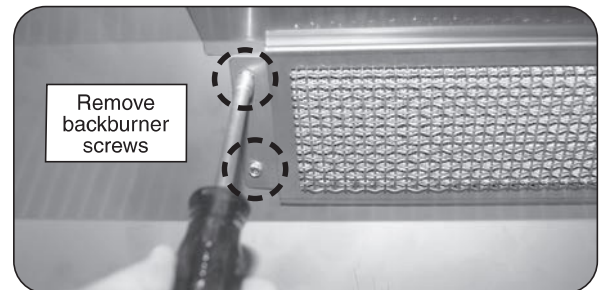

Fig. 36-3 Remove backburner mounting screws
2. Remove the backburner mounting screws (1/4" hex) located at the left end of the backburner assembly (see Fig. 36-3).